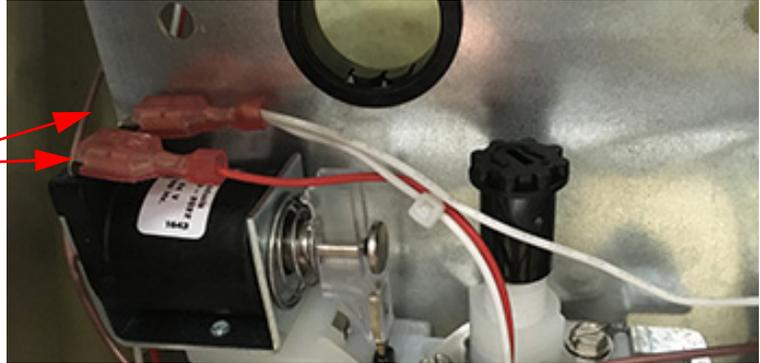

FIGURE 15
- Solenoid 1: White wire in back, **Red** in front. See FIGURE 15.